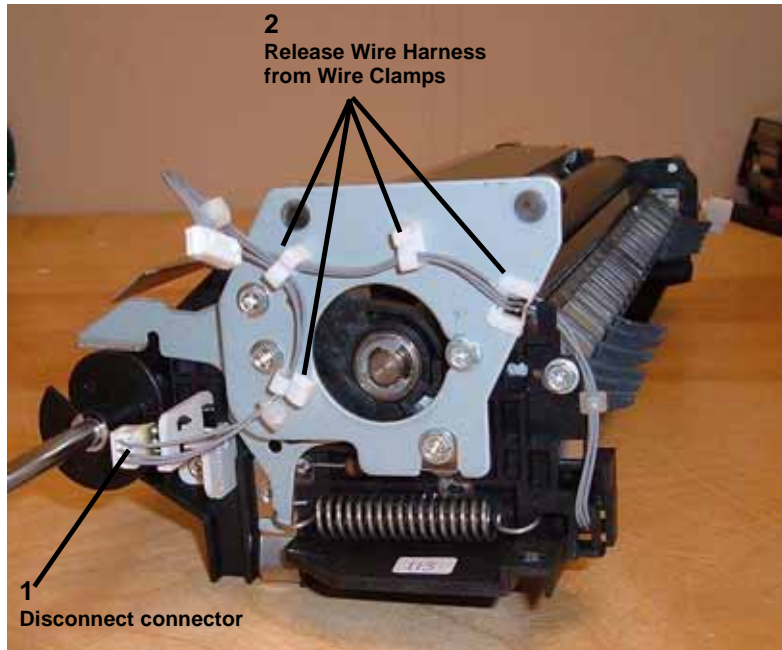

Figure 1 Disconnecting connector and releasing the Wire Harness
2. Disconnect connector and release Wire Harness (Figure 1).